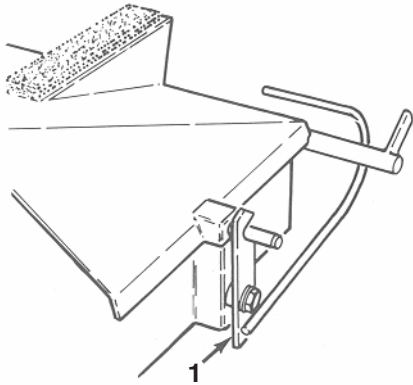

Figure 22
1. Adjust the latch assembly (Fig. 22) up or down if the cover does not seal properly or if the cover does not latch when operating.